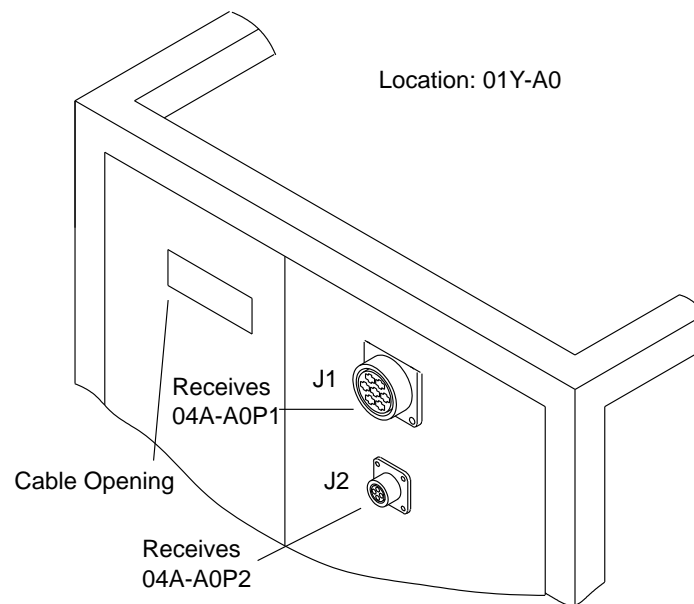

Figure 5-10. Power Sockets on the 3745
- Step 2. \_\_\_\_ Plug cable **1** to the large socket (J1) of the base frame at location 01Y-A0J1. Plug cable **2** into the small socket (J2) at location 01Y-A0J2 (see Figure 5-10 below).
- Step 2. \_\_\_\_ Route cable **3** through the cable opening (see Figure 5-10 on page 5-13) and to the MOSS board at the 3745 rear. Plug it to connector at 01A-Y0A6 (see Figure 5-12).